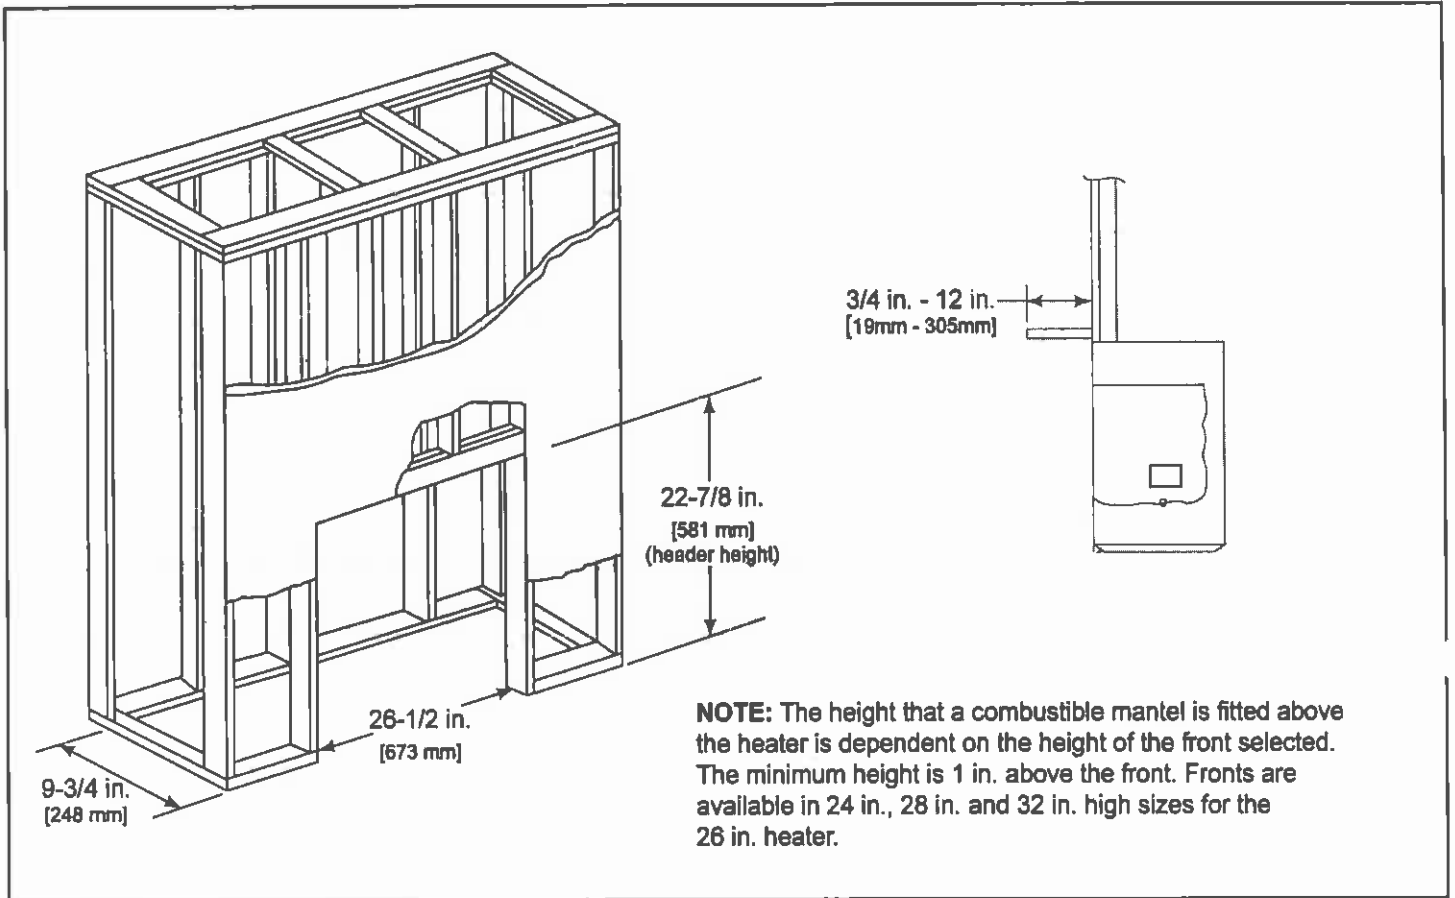

Figure 2 - Framing
Figure 2 shows a typical framing of this heater using combustible materials. All required clearances to combustibles must be adhered to. Header height is measured from the base of the heater.
- 2) Minimum fireplace opening requirements are shown in Figure 2 of this installation manual. The firebrick (refractory) can be removed from a factory built fireplace in order to gain minimum insert opening requirements.